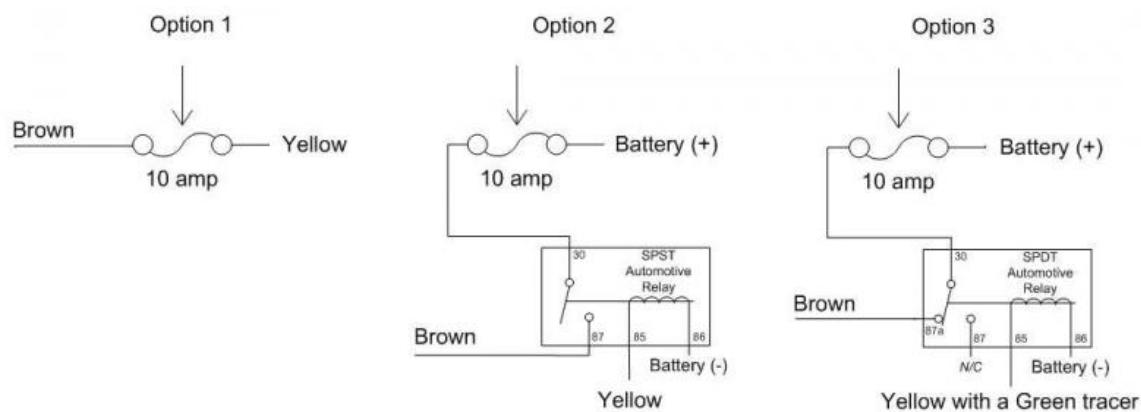

Figure 9
| Accessory Power w/ 10 amp fuse (05)  | Battery Positive (Multiple Options, see Figure 9 )  | Brown           | Red  | Yellow with a White tracer (if not using other switched source) |
- For option 3, instead of direct to the battery as shown in Figure 9, it should be direct to a switched power source. If you don't have switched power management installed you can combine options 2 and 3 by connecting pin 30 in option 3 to pin 87 in option 2. It's not the best solution but it will work.